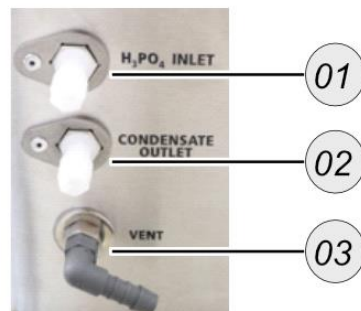

Fig. 1
- Condensate connection DN4/6 mm (Fig1 (2))
- Phosphoric acid connection DN4/6 mm (Fig1 (1))
- Vent connection DN10/12 mm (Fig.1 (3))
- Screw the condensate connection DN4/6 mm hand-tight into the Condensate Inlet (Fig.1 (2)).
- Screw the phosphoric acid connection DN4/6 mm hand-tight into the H₃PO₄ inlet (Fig.1 (1)).
- Screw the DN10/12 mm vent connection hand-tight into the vent (Fig.1 (3)).